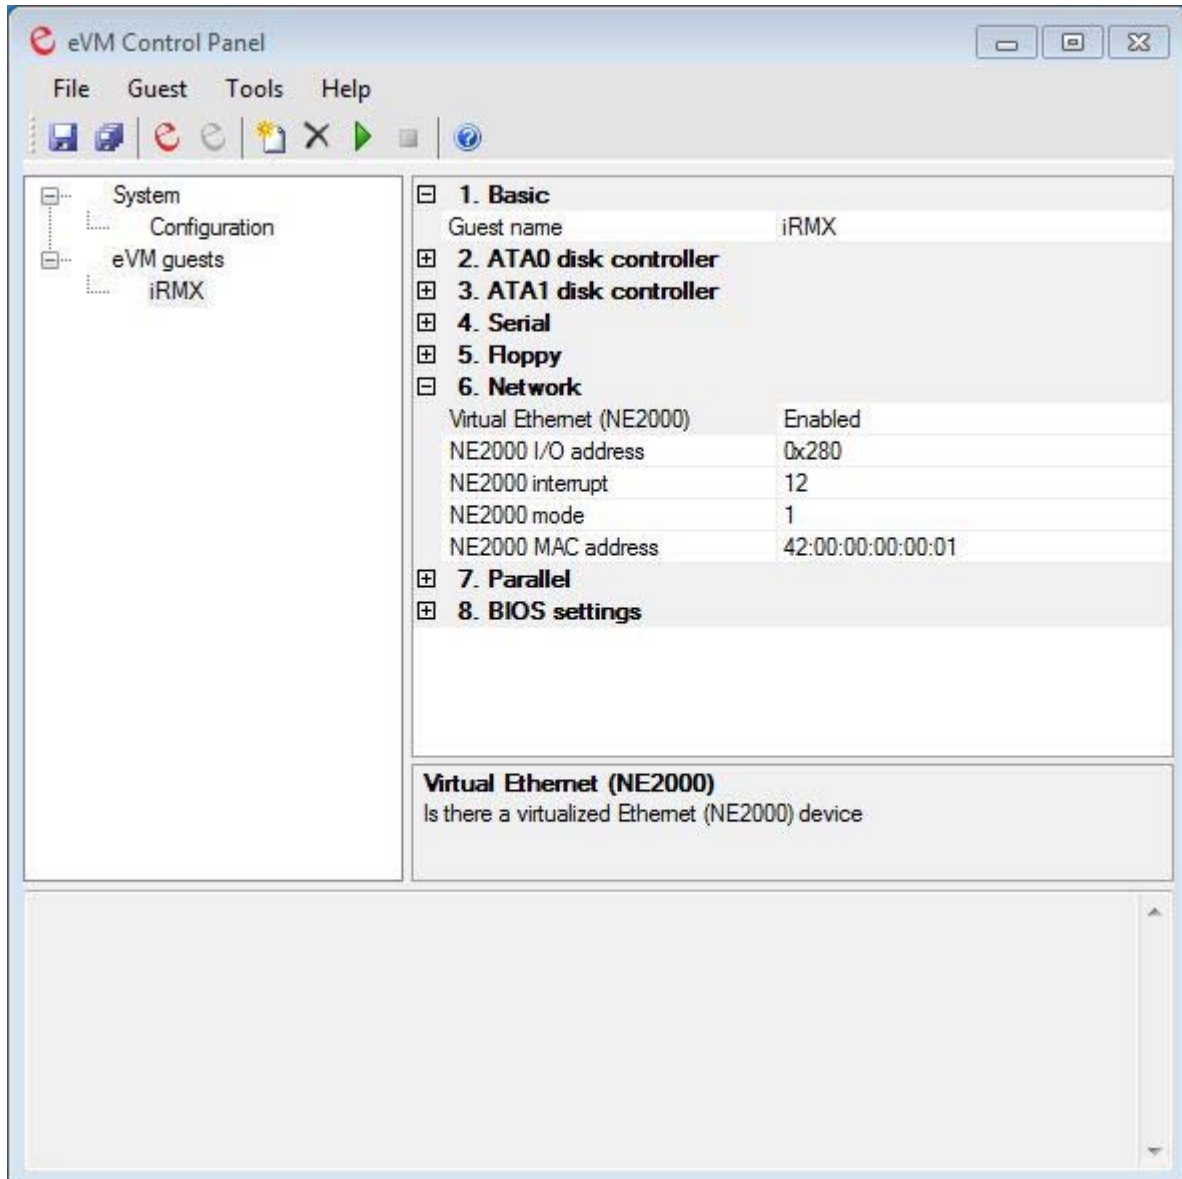

Figure 4.33 - eVM Control Panel, Guest OS Virtual Ethernet Device Configuration
1. Open **eVM Control Panel**, select the **guest OS**, and select the **Network** section, which has an item named *Virtual Ethernet (NE2000)*, Figure 4.33.